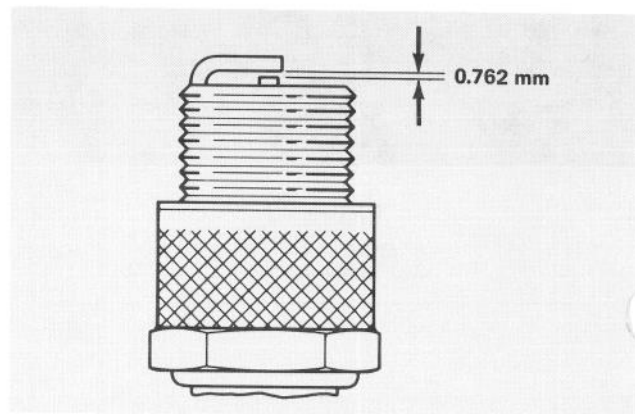

Figure 28
2. Set air gap between electrodes at 0.762 mm (Fig. 28). Install the correctly gapped spark plug with gasket seal and tighten plug to 20.4 N·m. If torque wrench is not used, tighten plug firmly.